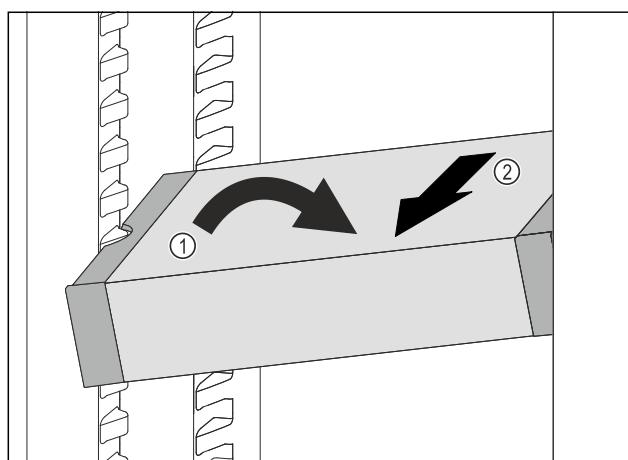

Fig. 147
- ▶ Set VarioSafe in refrigerator compartment at an angle. Fig. 147 (1)
- ▶ Take VarioSafe out to the front. Fig. 147 (2)